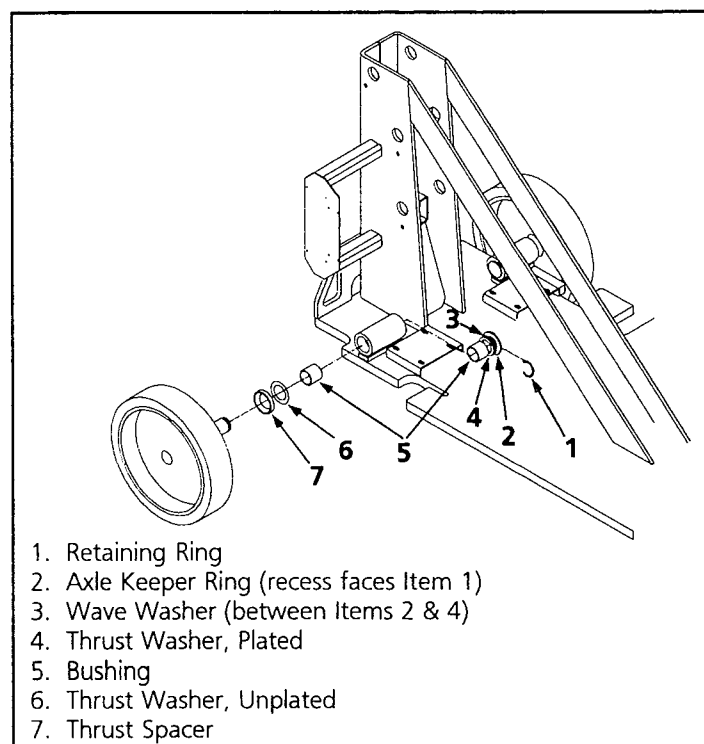

Figure 4-20: Rear Axle Bushings
4.9 Rear Axle Bushings (Figure 4-20)